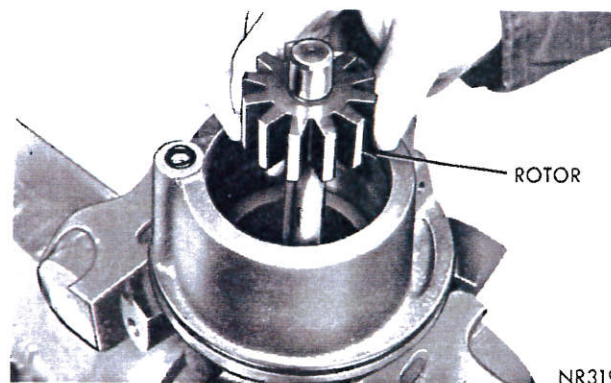
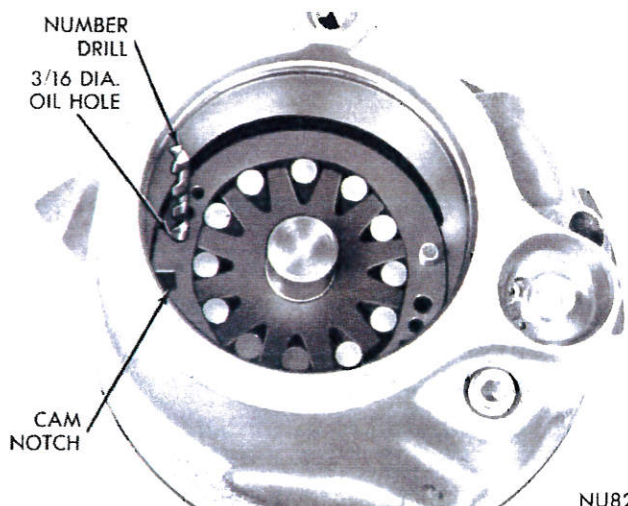

Fig. 28—Installing Rotor
Fig. 30—Aligning Oil Holes
(8) Install rotor and shaft in cam ring and carefully place 12 rollers in cavities of rotor (Figs. 28 and 29). Lubricate rotor, rollers, and cam I.D. with power steering fluid.
(9) Before installing pressure plate, rotate shaft by hand to make sure rollers are all seated parallel with pump shaft.
(10) To insure proper alignment of pressure plate to dowel pin, insert the largest possible number drill into the large 3/16 inch diameter oil hole in the cam ring, next to the cam notch. Select from a number 13 through 16 drill, clean thoroughly, and bottom on housing floor (Fig. 30).